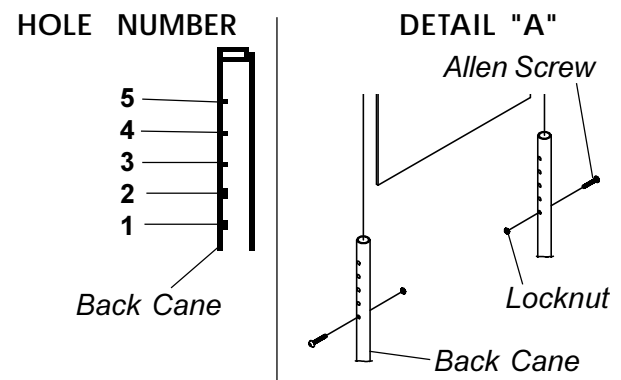

FIGURE 2 - ADJUSTING BACK HEIGHT
ADJUSTING BACK HEIGHT (FIGURE 2)
1. Remove the two (2) allen screws and locknuts that secure the two (2) back canes to the wheelchair frame. Refer to **DETAIL "A"** in **FIGURE 2**.
2. Reposition the back canes to one (1) of five (5) height adjustment holes:
3. Reinstall the two (2) allen screws and locknuts that secure the back canes to the wheelchair frame. Tighten securely. Refer to **DETAIL "A"** in **FIGURE 2**.